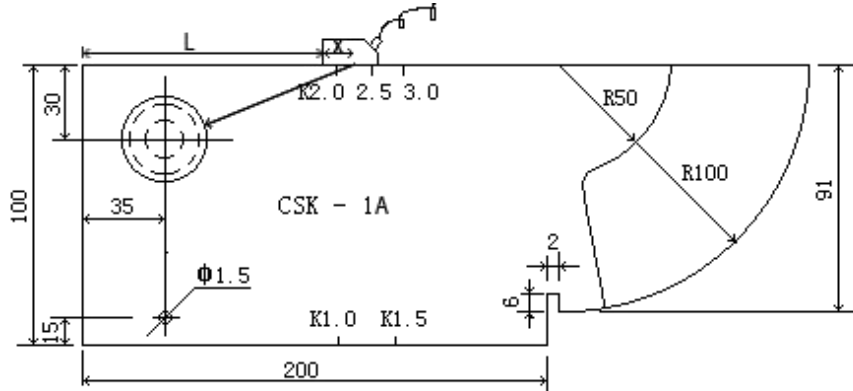

Figure 4-7
5. Calibrate the probe K value (angle): couple the probe to the CSK-1A test block and move it back and forth, as shown in Figure 4-7, till the reflection echo of the circle of $\phi 50\text{mm}$ reaches the highest level, use a steel ruler to measure L , and calculate K value according to $k=(L+X-35)/30$. As shown in Figure 4-9, press **PROBE** to enter the probe menu, press **▲** (up) or **▼** (down) to select the probe K value submenu, then press **◀** (left) or **▶** (right) to set the value as the K value calculated. As shown in Figure 4-9, or direct press **PEAK MEM** to calibrate the K value automatically.